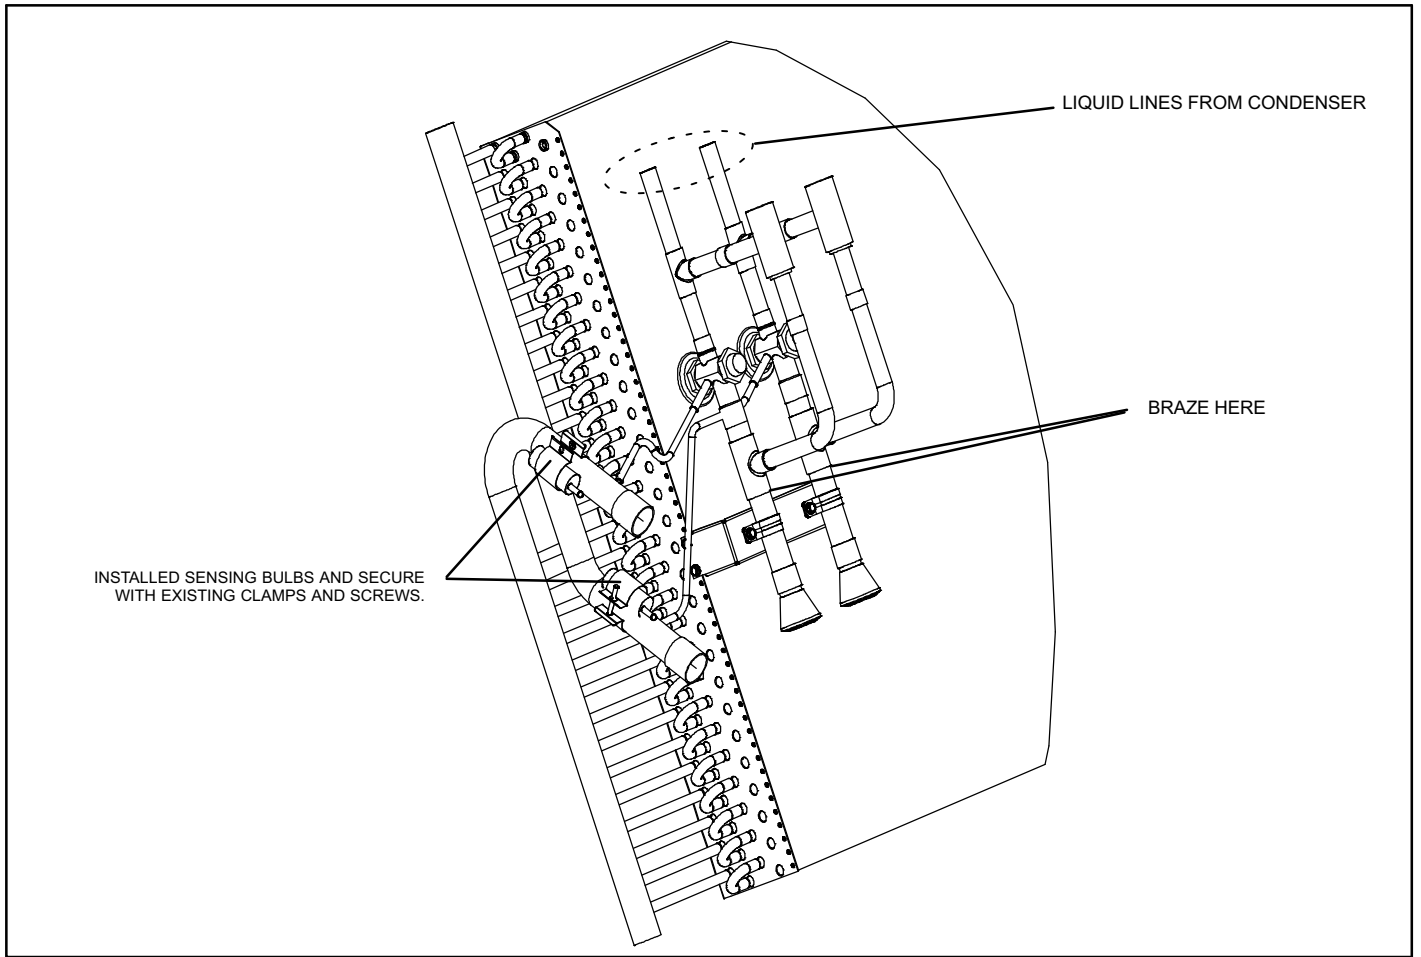

Figure 2. Installed Check Valve Kit
4. Braze check valve assembly to coil as illustrated in Figure 2. Wrap both ends of TXV with a wet rag to protect the TXV internal components. Leave wet rags on TXV until the braze connections have had time to cooled down.